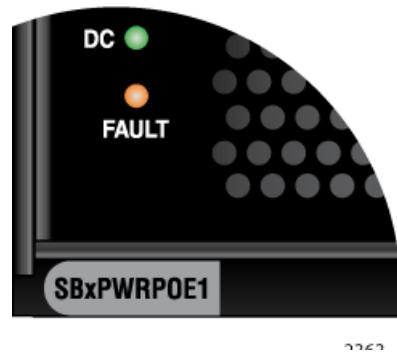

Figure 52. Verifying the AT-SBxPWRPOE1 PoE Power Supply
4. Check the model name, shown in Figure 52, to verify the module.